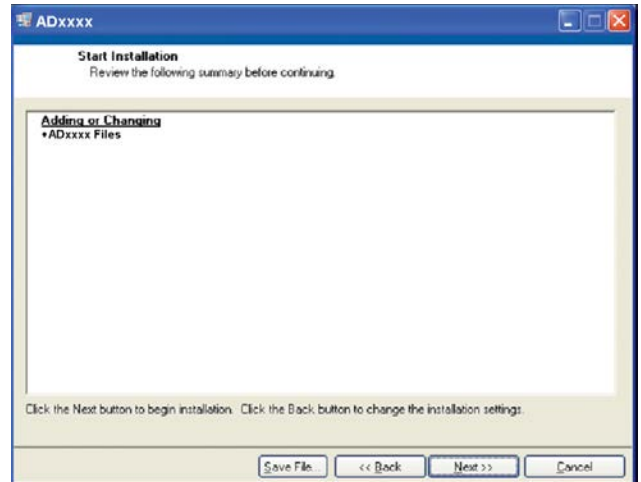

Figure 8. Reviewing a Summary of the Installation
- A summary of the installation is displayed (see Figure 8). Click **Next** to continue.